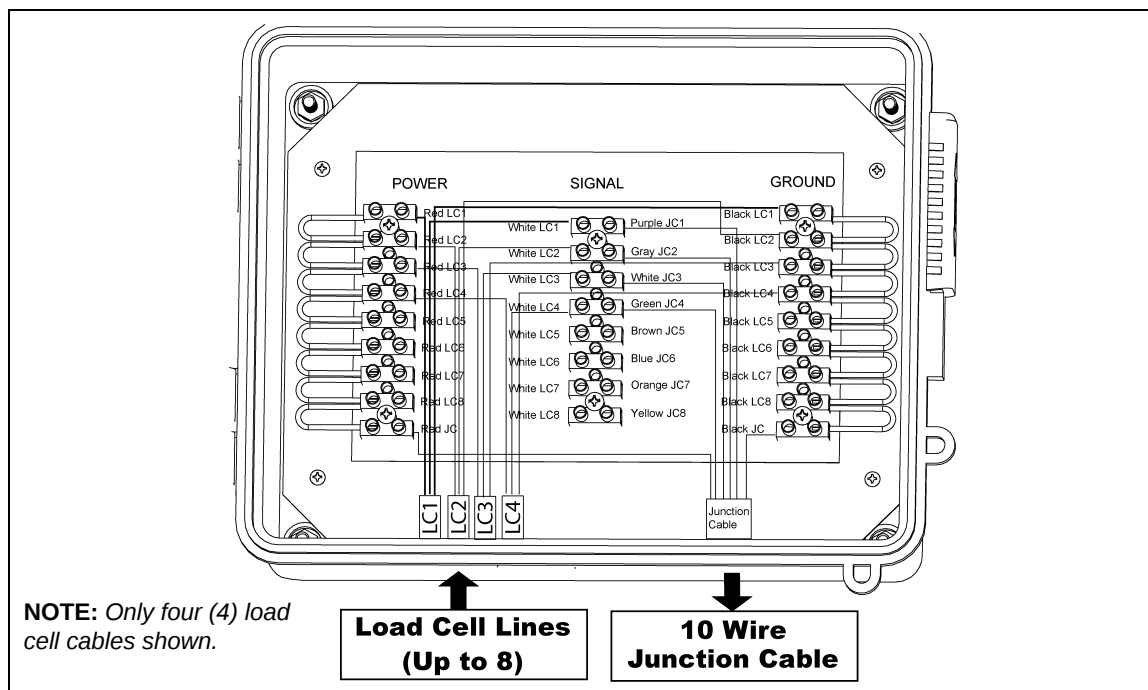

Figure 6B
4. Connect the **White** wire from load cell 1 to the left side center SIGNAL terminal labeled White LC1. Repeat for each consecutive load cell cable. (See Figure 6B.)